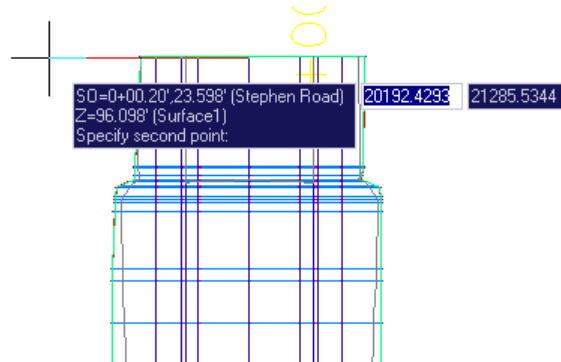

**Figure 9-33** Selecting *From corridor stations* from the *Sample line creation* flyout
9. Choose the down-arrow next to the **Sample line creation methods** button in the **Sample Line Tools** toolbar and then choose the **From corridor stations** option from the flyout, as shown in Figure 9-33. On doing so, the **Create Sample Line - From Corridor Stations** dialog box is displayed.